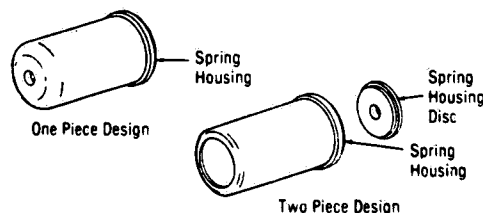

Figure 7-12. SPRING HOUSING DESIGNS.
**NOTE:** There are two different spring housing designs as shown in Figure 7-12.